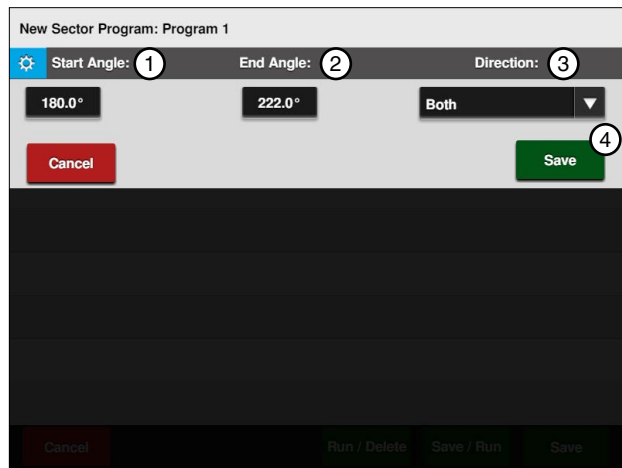

Figure 148-2 1. Start Angle 2. End Angle 3. Direction 4. Save
3. Select the **Start Angle** field. Refer to Figure 148-2.